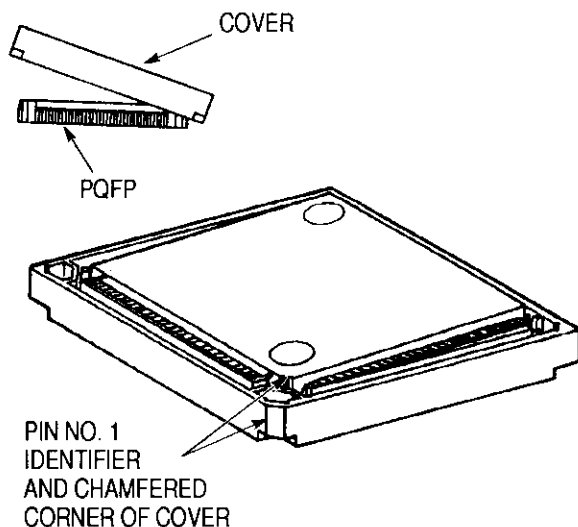

Figure 3
1. Place the PQFP on a flat surface, with the "gullwings" facing downward. Align the chamfered corner of the cover with the corner of the PQFP having the pin number one identification. See Figure 3.